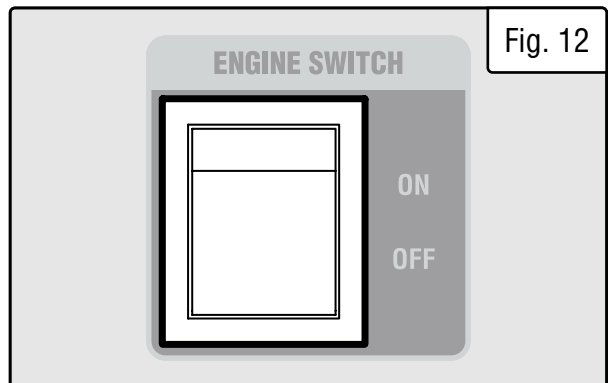

Fig. 12
5. Push the engine switch (Fig. 12) to the OFF position.